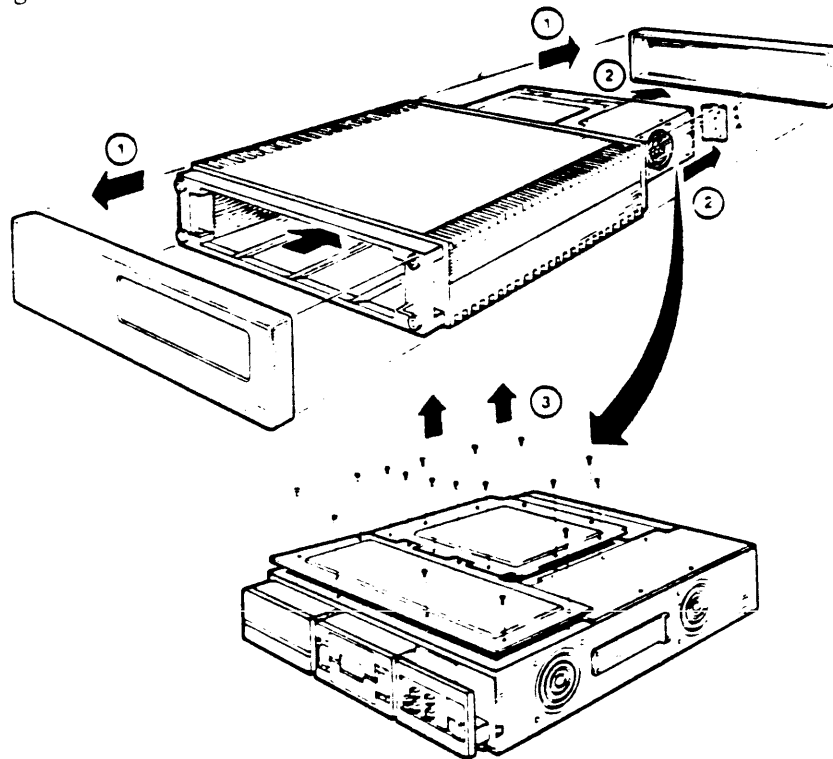

Figure 8-18 Backplane Removal (1 of 4)
3. Remove both the subsystem storage cover and the Q22-bus module cover (Figure 8-18).